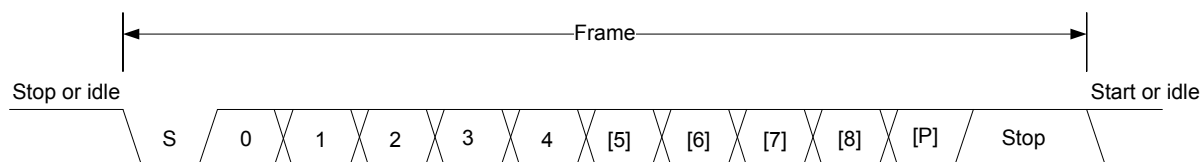

Figure 20.2. USART Asynchronous Frame Format
The frame format used in asynchronous mode consists of a set of data bits in addition to bits for synchronization and optionally a parity bit for error checking. A frame starts with one start-bit (S), where the line is driven low for one bit-period. This signals the start of a frame, and is used for synchronization. Following the start bit are 4 to 16 data bits and an optional parity bit. Finally, a number of stop-bits, where the line is driven high, end the frame. An example frame is shown in Figure 20.2 USART Asynchronous Frame Format on page 571.